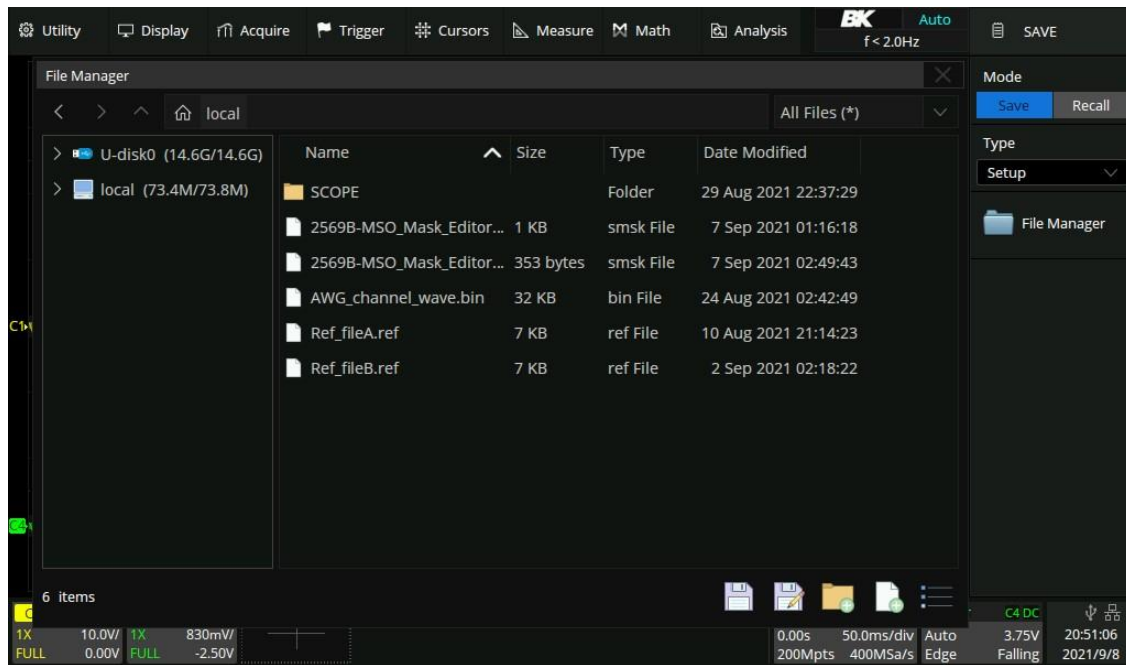

Figure 22.3 File Manager Window
5. Touch **File Manager** to open the file manager window shown in figure 22.3.